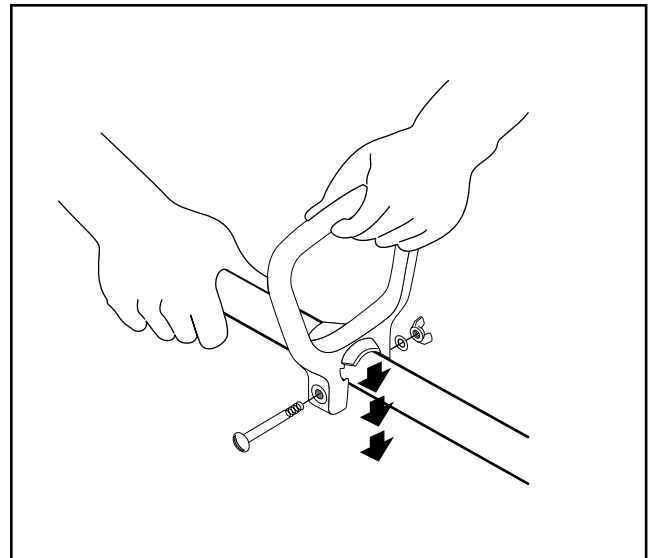

Fig. 3
1. Push the D-handle down over the boom (Fig. 3).